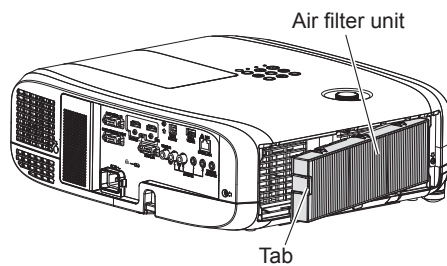

Fig. 1
- 1) **Attach the air filter unit to the projector. (Fig. 1)**